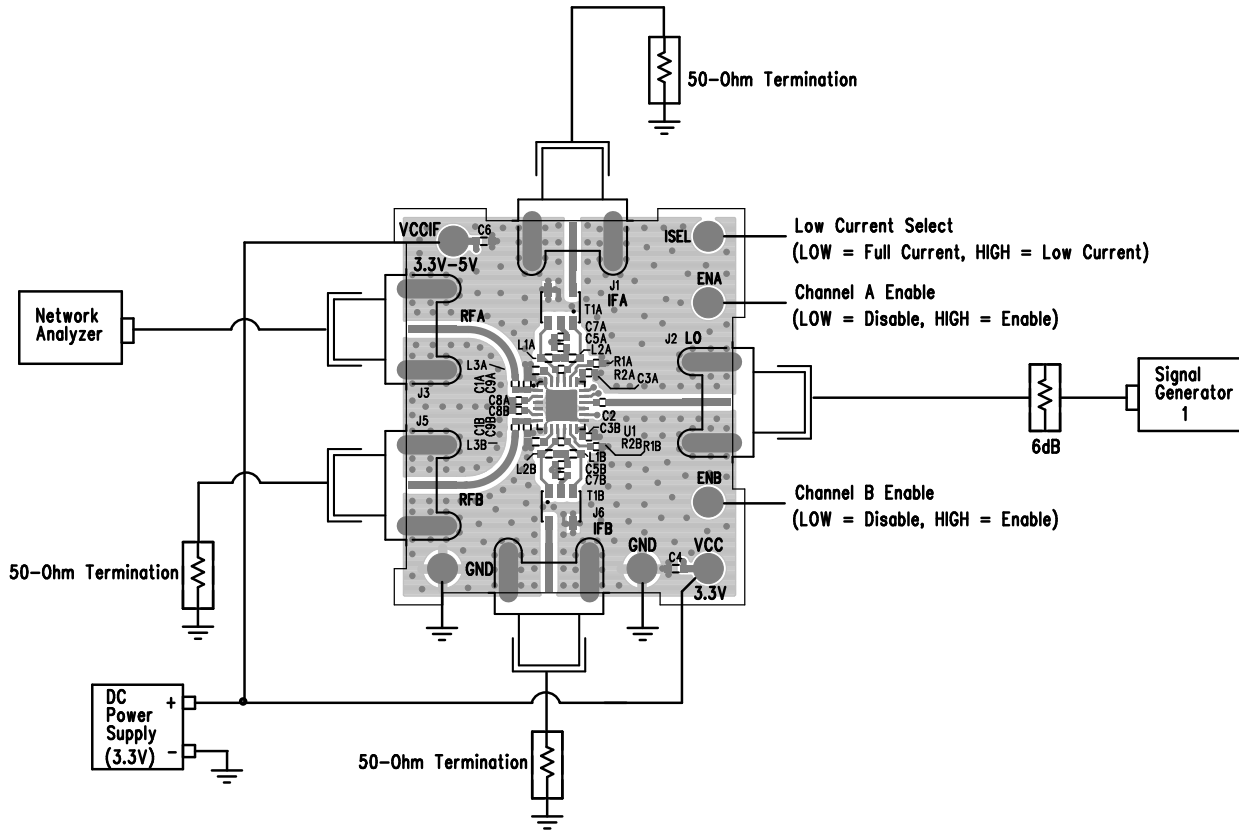
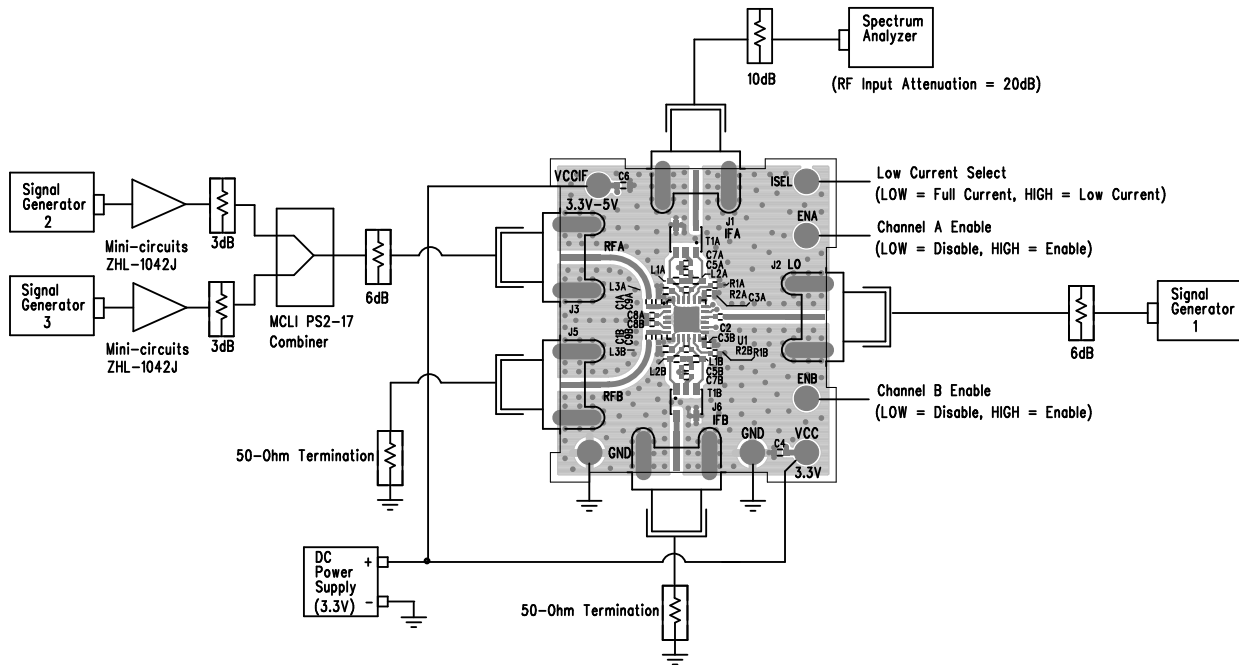

Figure 5. Proper Equipment Setup for Return Loss Measurements
Figure 6. Proper Equipment Setup for RF Performance Measurements
The LTC5590 is a dual high dynamic range downconverting mixer IC with very high input 3rd order intercept. Accuracy of its performance measurement is highly dependent on equipment setup and measurement technique. The recommended measurement setups are presented in Figure 5, Figure 6, and Figure 7. The following precautions should be observed:
The LTC5590 consists of high linearity passive double-balanced mixer cores and IF buffer amplifiers. Due to the bidirectional nature of all passive mixers the  $\text{LO}\pm\text{IF}$  mixing products, also referred to as pseudo-image spurs, are always present at the RF input, typically at a level  $12\text{dB}$  below the RF input signal. Mismatched impedances at the pseudo-image spur frequencies, such as when filters are used for SSB NF measurements, can significantly impact the linearity and noise figure measurements. To avoid interference from the pseudo-image spurs, terminate the RF input port with an isolator, diplexer, or attenuator. In the recommended measurement setups presented in Figure 6 and Figure 7, the  $6\text{dB}$  attenuator pad at the demonstration circuit's RF input serves this purpose.
Demonstration circuit 1710A-A is easy to set up to evaluate the performance of the LTC5590. Refer to Figure 5, Figure 6, and Figure 7 for proper equipment connections. The following procedures describe performing measurements on Mixer Channel A. The measurement procedures for Mixer Channel B are identical.
3. Connect all test equipment as shown in Figure 5 with the signal generator and the DC power supply turned off.
1. Connect all test equipment as shown in Figure 6 with the signal generators and the DC power supply turned off.